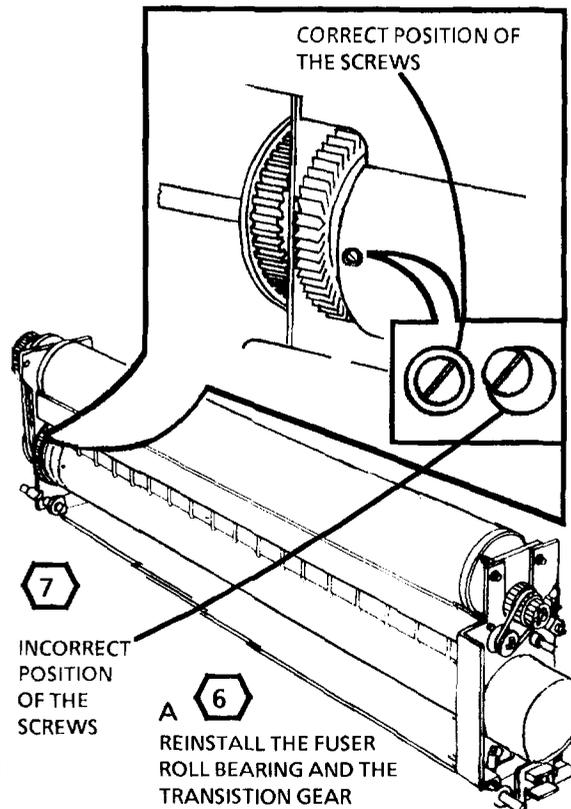

Figure 12. Screw Position in Holes
16. (FIGURE 12): REINSTALL THE FUSER ROLL BEARING.